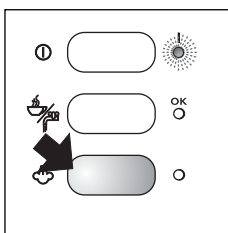
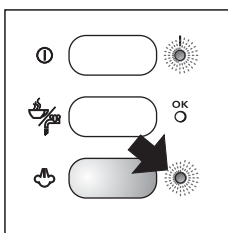

fig. 15
fig. 16
2. Press the steam button (fig. 15) and wait for the steam indicator light to come on (fig. 16). The OK indicator light indicates that the boiler has reached the ideal temperature for steam production.
6. When the required temperature is reached, interrupt steam delivery by rotating the steam knob clockwise. Then press the steam button (fig. 15).